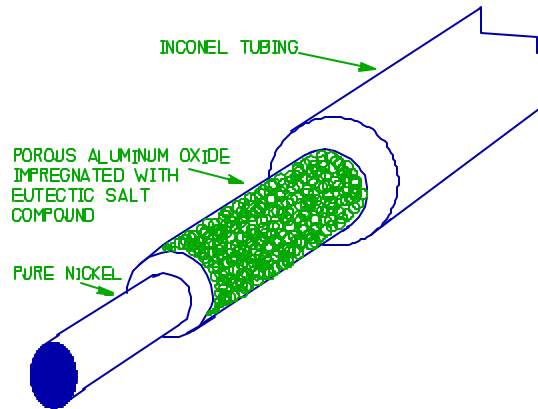

Figure 2. Cross Section of an FSS CFD Sensing Element.
- A. Sensing Element Description. The sensing element of the Continuous Fire Detection System is the nerve network of the system. It is constructed of a pure nickel center conductor surrounded by a porous aluminum oxide insulator impregnated with a eutectic salt and encased in a hermetically sealed Inconel tube with an outside diameter of approximately 0.090 inches, see Figure 2. Voids in the porous insulator are saturated with the eutectic salt compound, which, when heated to its alarm point, forms a conductive path between the center conductor and the outer sheath. When temperatures return below the alarm set point, the eutectic salt resumes its nonconductive properties and the system resets.